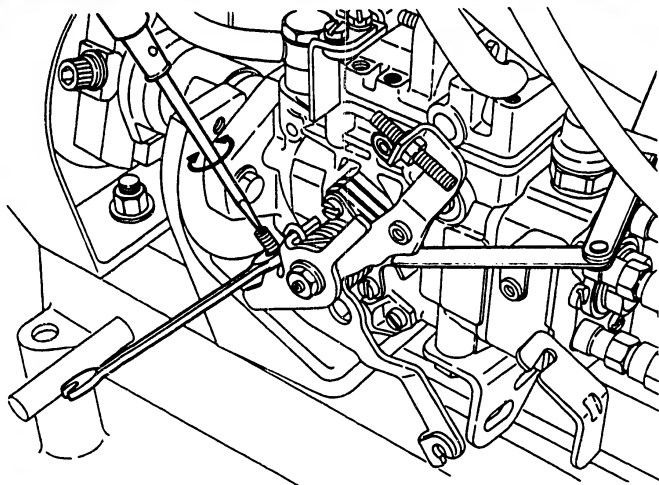

Fig. 172 Setting the adjusting screw
3. While holding the lever shaft's ball pin against the roller holder with the timer stroke at zero, adjust the M-C.S.D. lever position by turning the adjusting screw so that the distance between the stopper flange and the M-C.S.D. lever is as specified. Then, confirm the above measurement by moving the M.C.S.D. lever two or three times. (Fig. 172)